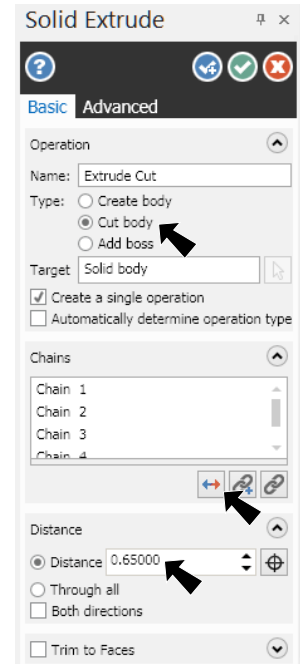

Fig. 32
Step 4. In Solid Extrude function panel, Fig. 32